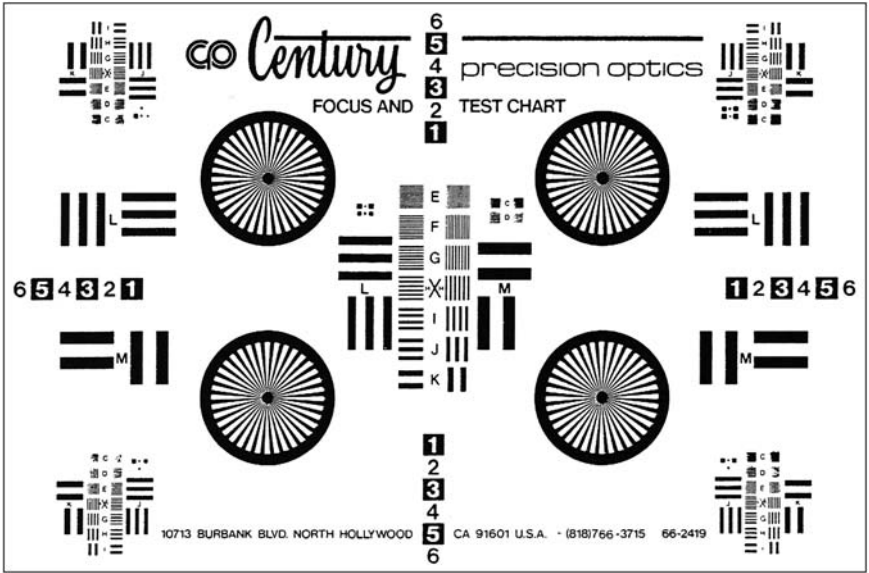

Figure 4.3 Century Precision Optics focus test chart. (Courtesy of Century Precision Optics.)
- Using your tape measure, place a focus chart at specific distances from the camera. Base the distances on how the lens is marked. If the lens has focus marks at 5, 6, 7, 8, 10, 12, and 15 ft, place the focus chart at these distances and check the lens at each distance (see Figures 4.3 and 4.4).